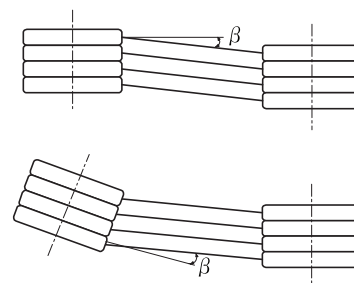

Fig. 10
- Eccentricity of parallelism between two pulleys must be less than  $0.5^\circ$  (Fig. 10).